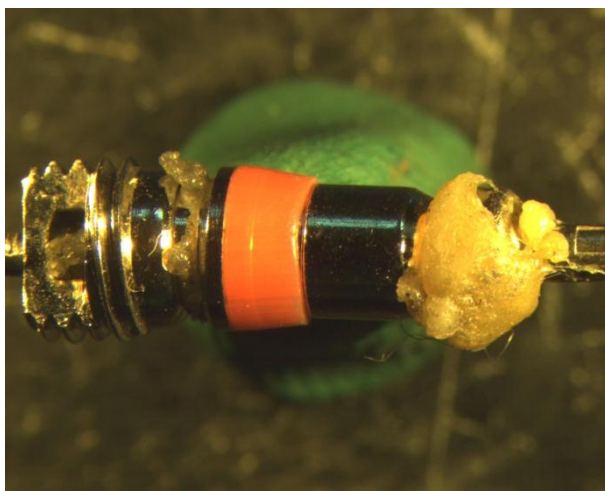

Figure 1: TPM Sensor/Stem after Testing
5.3 Test Documentation. See Data Sheet A1, Appendix A. Submit a photograph of the tire valve or sensor after testing (see Figure 1).